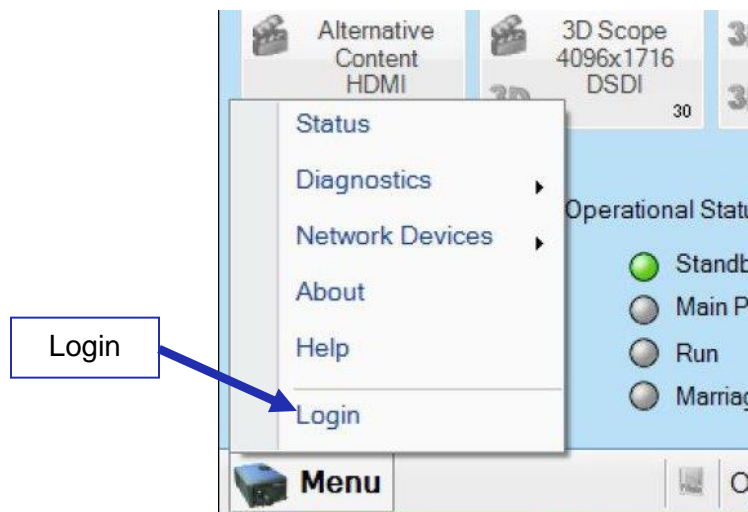

Figure 78: Login
- After about 1:45 minutes, the main screen will appear on the touch panel controller. Go to Menu → Login and login as Marriage. Contact your administrator for the correct password (Figure 78).